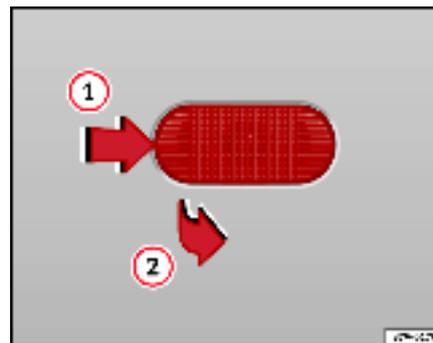

Fig. 162 Side indicator
- Slide the turn signal forwards ① ⇒ fig. 162 and remove ②.